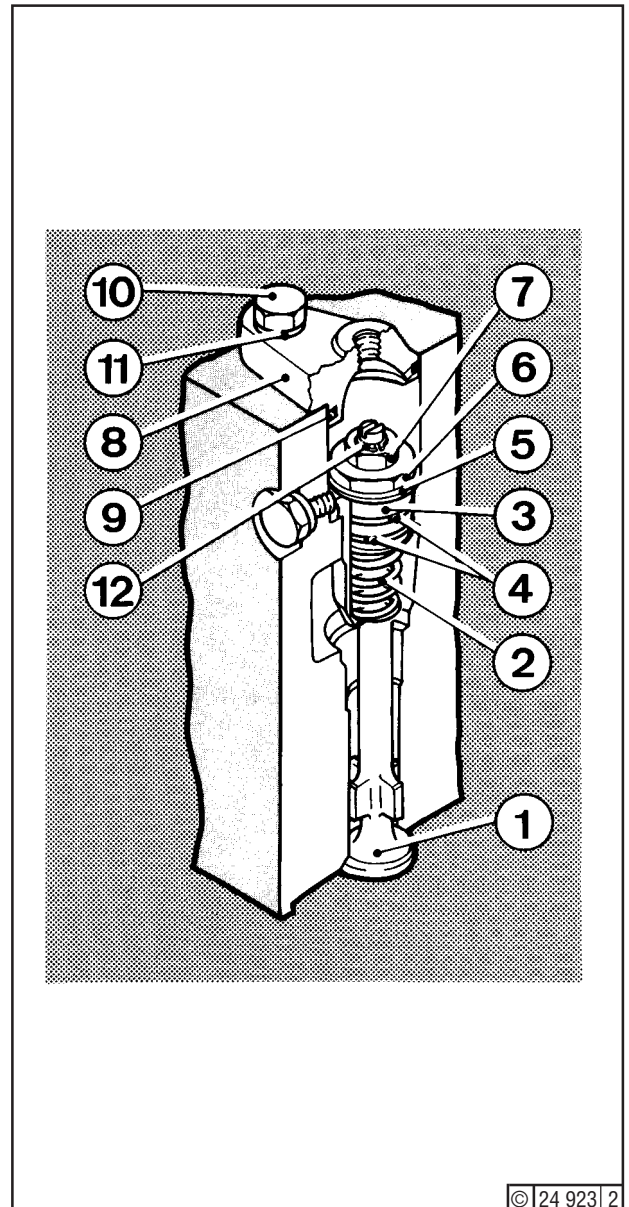

Fig. 1
Place cylinder head on a wooden support. Unscrew hex. bolt (10) - Fig. 1 - with lockwasher (11), and remove cover (8). Place cylinder head on the side, remove circlip (12) and release locked nuts (7) and (6) as follows: Place a socket on hex. nut (7) and slip socket spanner over it to move hex. nut (6). Piston (3) is loaded by spring (2). Remove washer (5). Dismantle valve. Clean components in gas oil and check for wear. Oil components slightly.